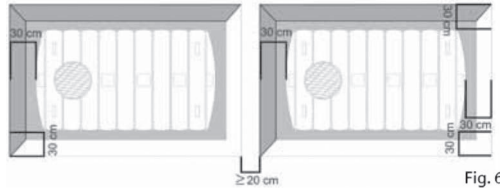

Fig. 6
9. The instructions provided above apply to the burying of a single tank. For multiple tanks (placed in series or in parallel) perform separate excavations and at a distance from each other of one meter. Alternatively provide a bearing wall of at least 20 cm (fig. 6).